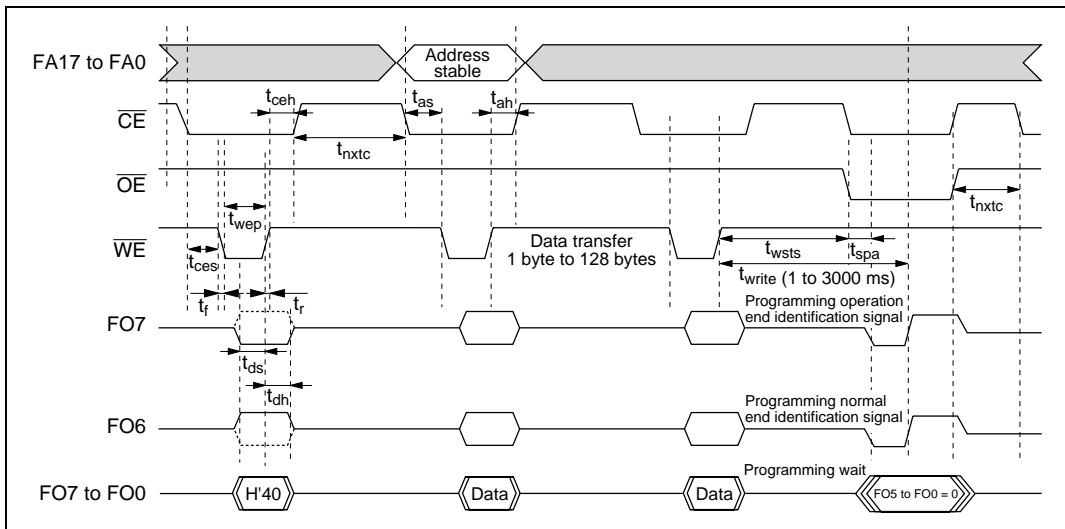

Figure 22.20 Auto-Program Mode Timing Waveforms
- Memory address transfer is performed in the second cycle (figure 22.20). Do not perform transfer after the second cycle.